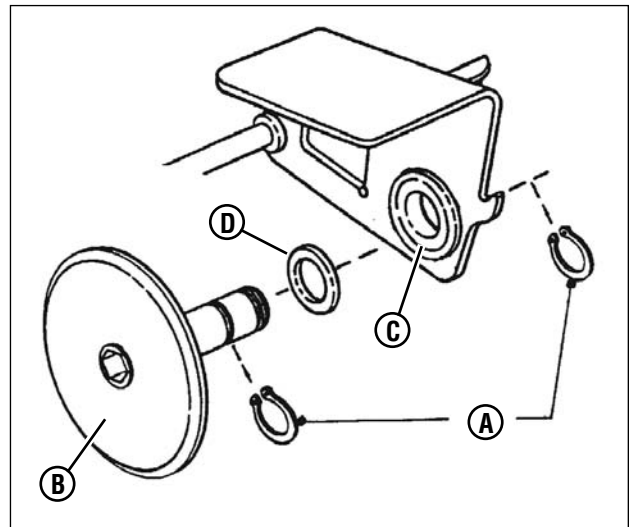

Figure 32: Replacing the driven disc
3. Remove the two snap rings (A, Figure 32) which secure the rubber driven disc (B) to the driven disc assembly.
2. Remove both snap rings (A, Figure 32) that secure the rubber driven disc (B) to the thrust plate.
4. Drive out the existing bearing (C).